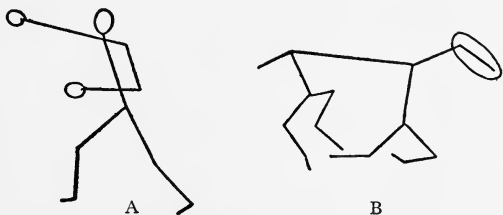

FIG. 42. A SIMPLE LINE DRAWING OF A MAN AND A HORSE
**Simple Line Sketches.**— As you will see by looking at A and B in Fig 42, the sketches of the man and horse consist of merely straight lines but you will also